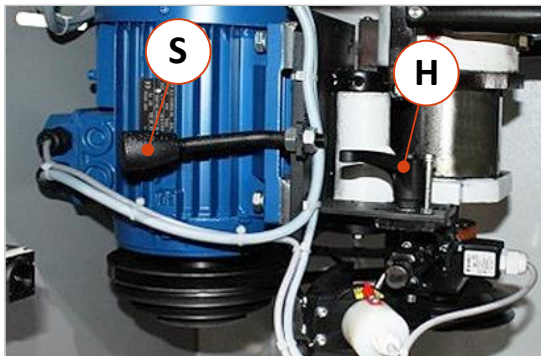

Figure 33: Changing and retensioning the belt
- Now loosen the clamping lever (H).
- Lift the motor with the swivel lever (S) so that the old belt can be removed
- Then tighten the clamping lever (H) again.
- If necessary, retension as described above next to ⇒ Figure 33.